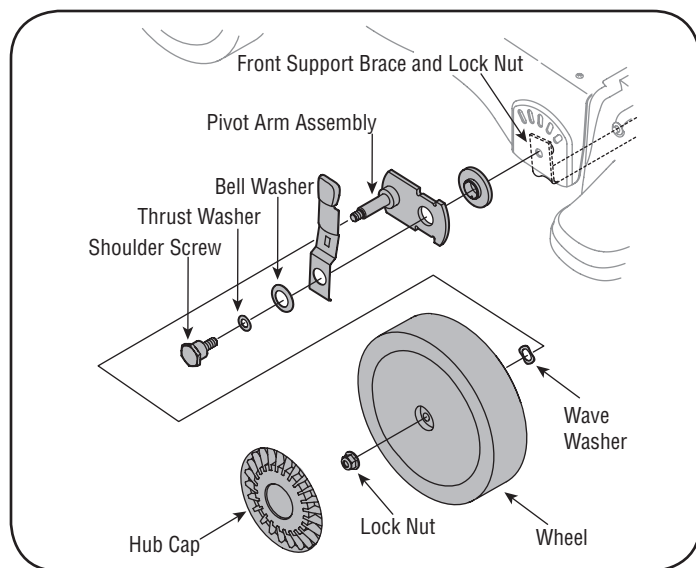

Figure 23
4. Remove the front hubcaps, flange lock nuts, front wheels, and wave washers that attach to the pivot arm assemblies. See Figure 23.